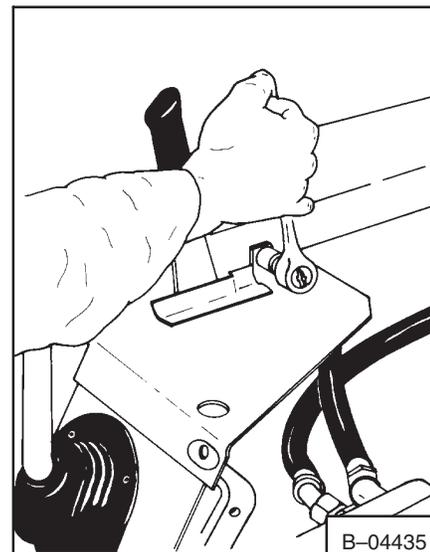

Fig. 3-4 Removing Side Shield
4. Remove the bolts and remove the side shields (Fig. 3-4) on both sides of the loader.
6. Install the side shields and bolts and tighten (Fig. 3-4).